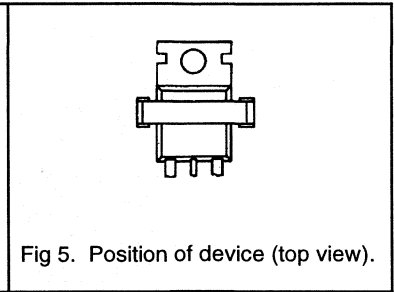

Fig 5. Position of device (top view).
3. Push down the clip over the device until the long end of the clip snaps into the wide slot in the heatsink. The clip should bear on the plastic body, not on the tab. See figure 5.
A substrate is immersed in the vapours of a suitable boiling liquid. The vapours transfer latent heat of condensation to the substrate and solder reflow takes place. Temperature is controlled precisely by the boiling point of the liquid at a given pressure. Some systems employ two vapour zones, one above the other. An elevator tray, suspended from a hoist mechanism passes the substrate vertically through the first vapour zone into the secondary soldering zone and then hoists it out of the vapour to be cooled. A theoretical time/temperature relationship for this method is shown in Fig.5.